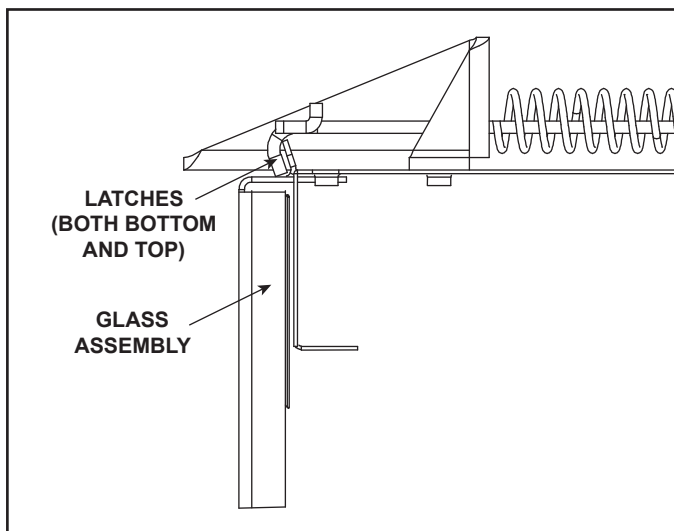

Figure 4.1 Fixed Glass Assembly
- Pull the four glass assembly latches out of the groove on the glass frame. Remove glass assembly from the appliance. See Figure 4.1.